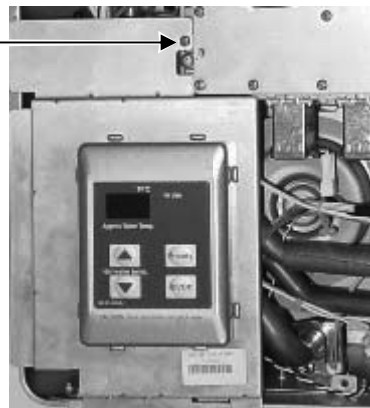

Figure 6
4. On indoor models, remove the bracket holding the controller (1 screw). (Figure 6)
5. Move aside the ignition line by pulling it out from the clear plastic tubing. (Figure 6)